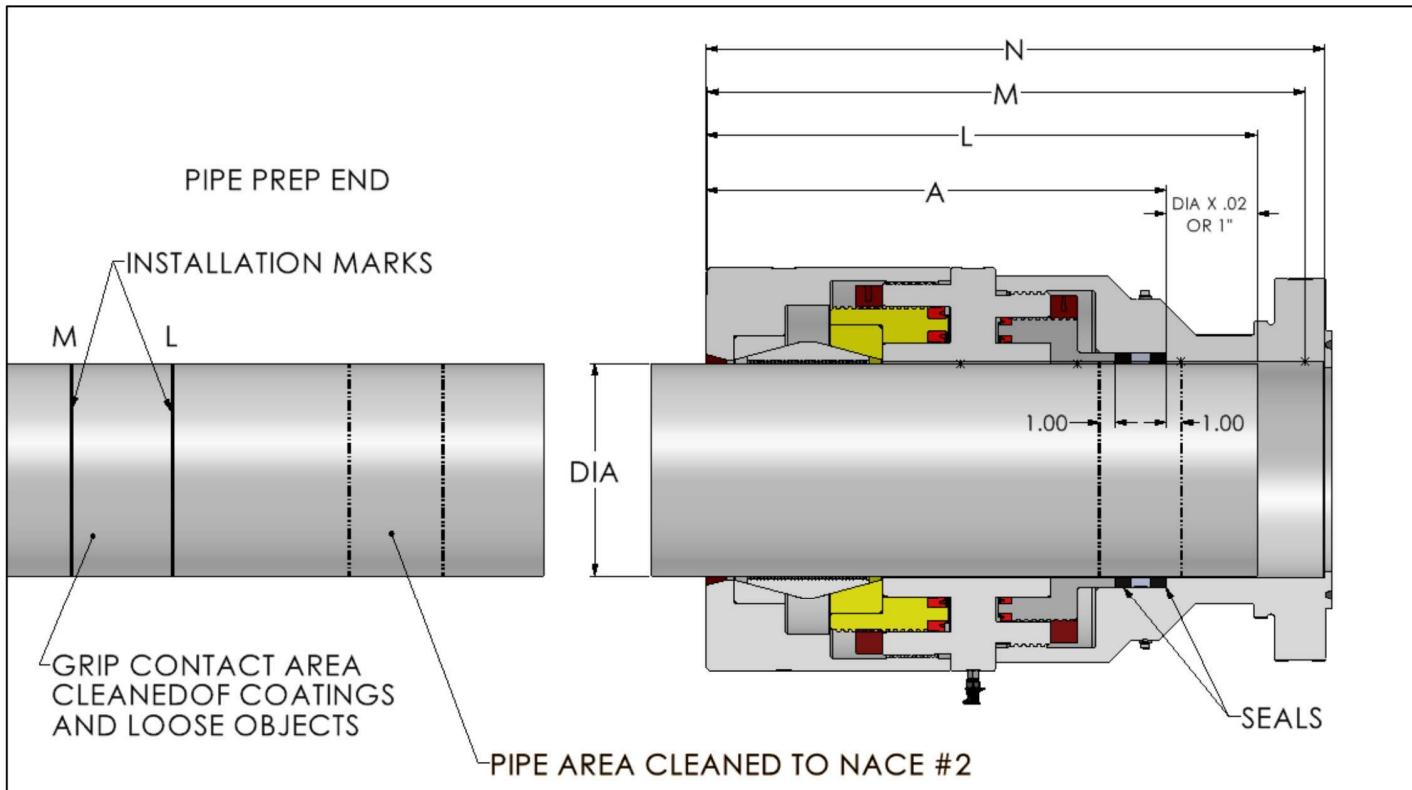

Figure 1
- The minimum distance the pipe must be inserted into the fitting is shown as "L" in Figure 1. To determine distance "L", first measure the distance from the outer surface of the grip section to the end of the last seal shown in Figure 1 as "A". Next add 20% of the existing pipe outside diameter or a minimum of 1" whichever is greater.
- The maximum distance that the pipe can be inserted in the fitting is shown as "M". To determine distance "M", measure the distance from the outer surface of the grip section to the stop on the inside of the fitting shown in Figure 1 as "N". Subtract 3/4" from distance "N".
9. Remove all coatings, rust, and scale from the pipe surface where the seals will contact the pipe (see Figure 1). A near-white finish, as noted in SSPC-SP10 / NACE No.2, is preferred 1" (25mm) before and after the seal. The cleaner the pipe surface the more positive the seal. Sandblasted surfaces should be buffed smooth.